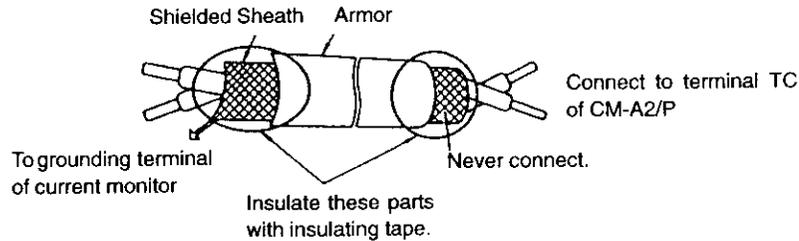

Fig. 4 Shielded wire termination
- Use a shielded wire to connect for current output signals. Connect the wire as shown in Fig. 4 to prevent interference by noise.